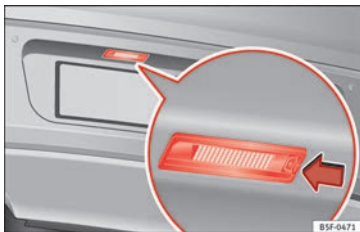

Fig. 223 In the rear bumper: number plate light.
1. Press the number plate light in the direction of the arrow » **Fig. 223**.